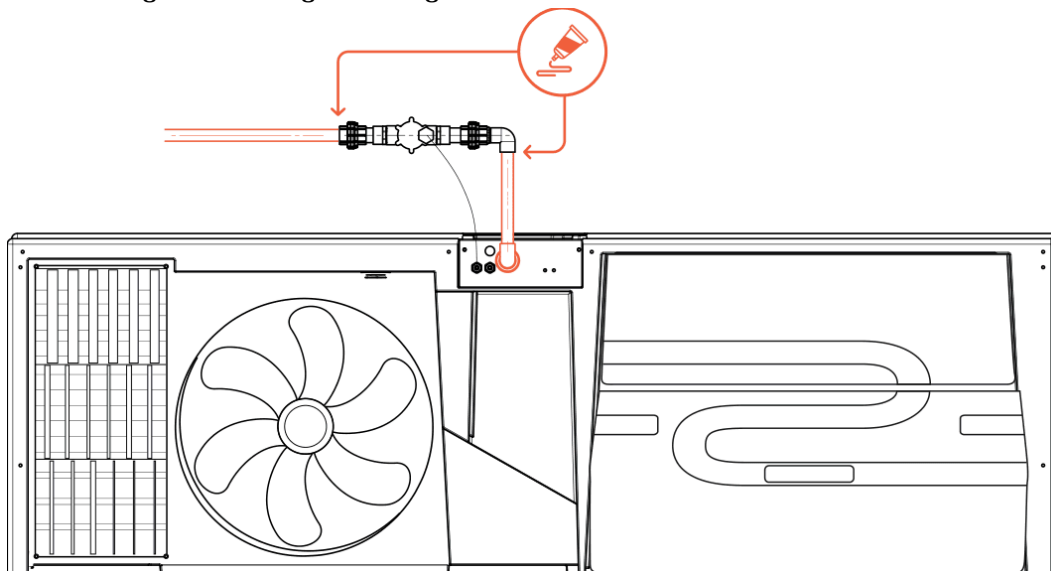

Figure 21 Main supply water
- a. Connect and glue the pipes to the system to the water in your building and to the exchanger, according to the Figure 21.